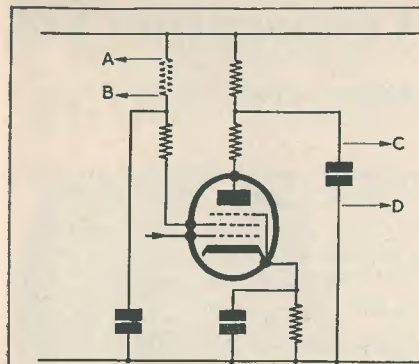

FIG. 2. Substituting individual resistors & condensers
out of, circuit by operating the appropriate switch. Thus, in Fig. 2, the dropping resistor on the screen grid of the valve may be changed experimentally by connecting the common resistor line (A) to the h.t. rail, and the output from switch 1 (B) to the junction of the bypass condenser and the remaining resistor. Similarly, any of the resistors in the associated circuit could be so replaced if desired.